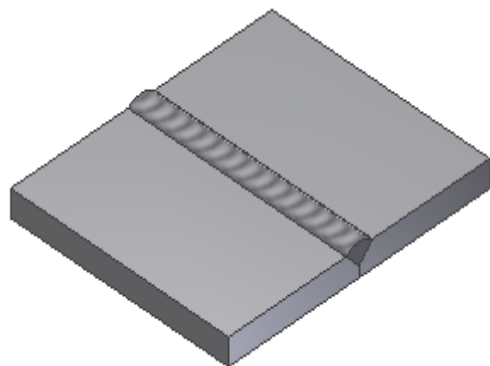

Figure 16-23 Final weldment assembly after creating the fillet weld
9. Choose the **Apply** button and then the **Cancel** button to exit the dialog box. Next, choose the **Return** button to finish the creation of the fillet weld. The welded plates are shown in Figure 16-23.